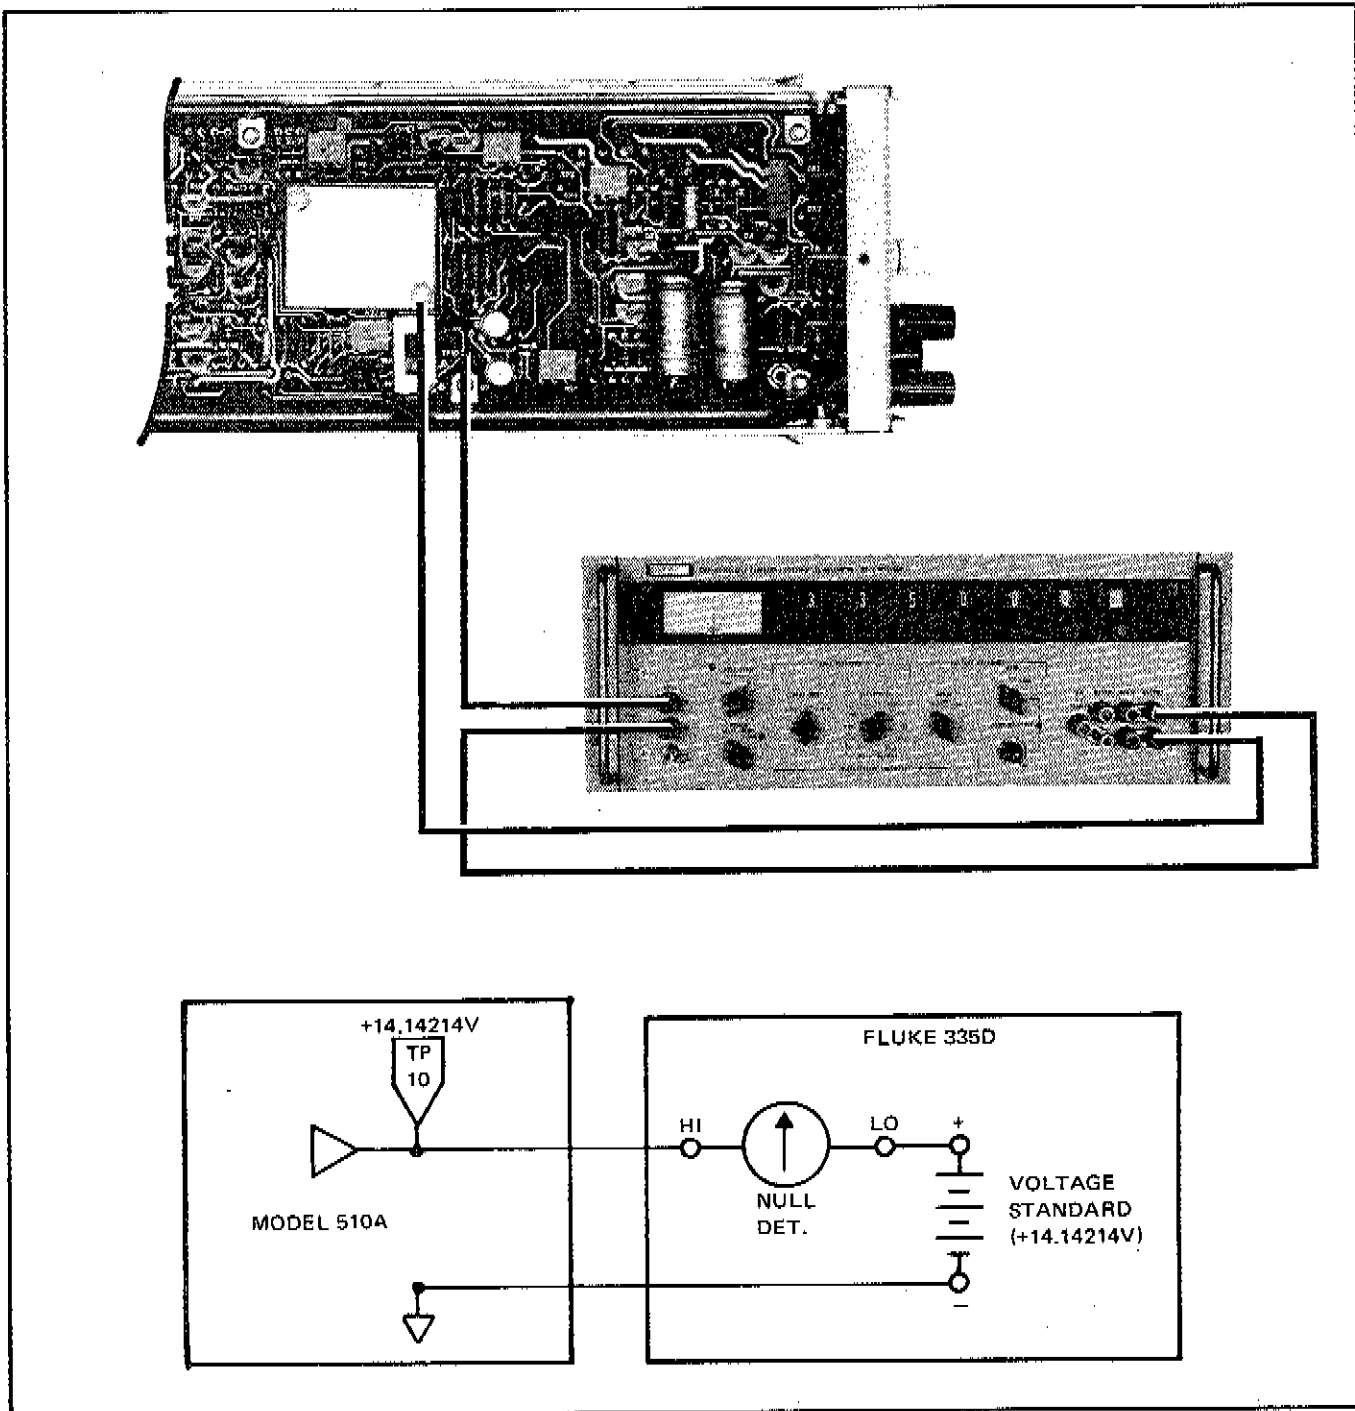

Figure 4-6. DC REFERENCE EQUIPMENT CONNECTIONS
- a. Make the equipment connections shown in Figure 4-6.
- Turn on the Model 510A and make the equipment connections shown in Figure 4-6.